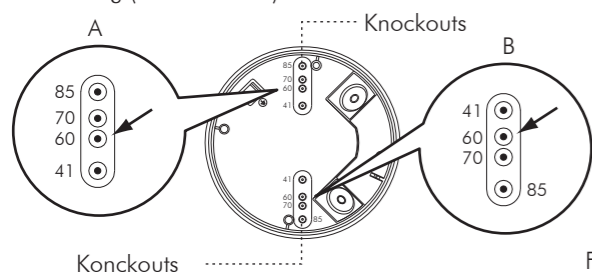

FIG.12-A
3.4.3.1 There are 4 pairs of knockouts with various distances from 41mm to 85mm on the junction box can be selected for different mounting applications (See FIG.12-A). Select two same figures on both ends for the corresponding distance for fixing (See FIG.12-B).